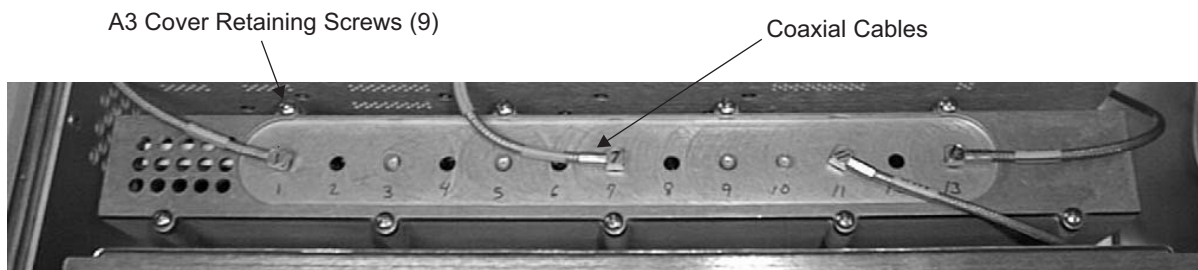
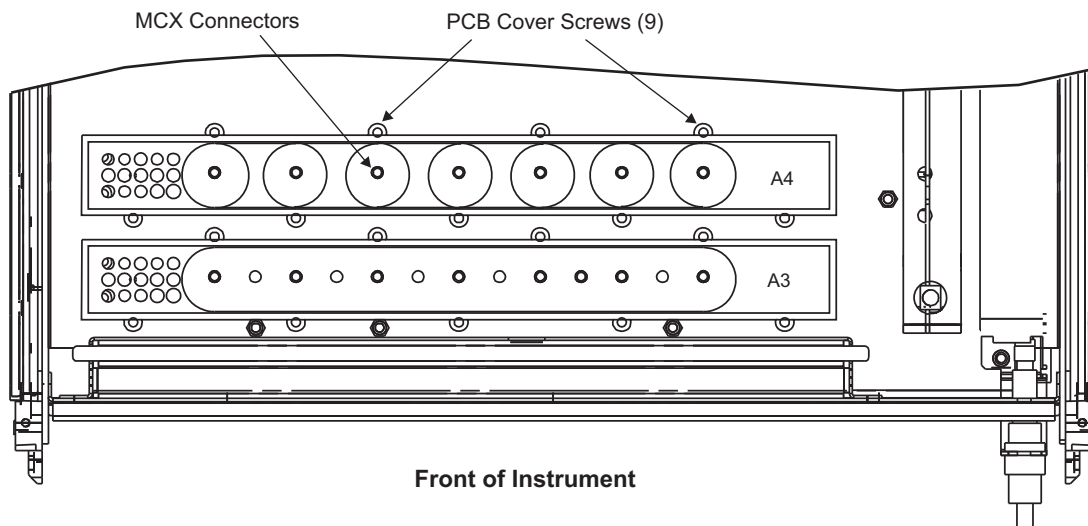

Figure 6-6. A3 Reference/Fine Loop PCB Cover Removal
Figure 6-7. A3 Reference/Fine Loop and A4 Coarse Loop PCB Assembly Removal
This paragraph provides instructions for removing and replacing the A2 microprocessor PCB which is located immediately behind the front panel in a shielded card cage. See Figure 6-6.
1. Carefully disconnect the coaxial cables from the top connectors of the A3 PCB assembly. See Figure 6-6 and Figure 6-7.
1. Carefully disconnect the coaxial cables from the top connectors of the A4 PCB assembly. Refer to Figure 6-7.